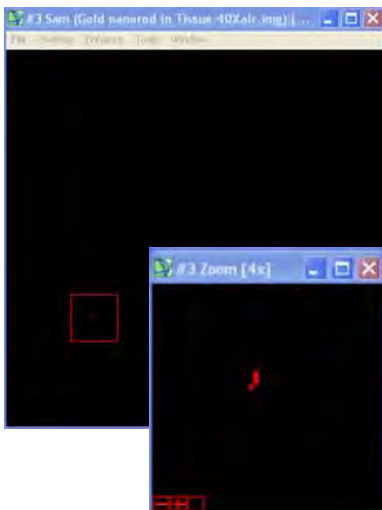

Figure 20. Original Classification (#1 SAM) image obtained using 0.1 Maximum Angle
11. Then click on "Load Band to New Display". The new classification (#2 SAM) images (Figure 22) with the original image (Figure 21) and the original classification (#1 SAM) Image at the side (Figure 20). When you compare the first and second classification images, you will see that additional particles scattered about the cell are classified as GNR when the angle was set to a greater value. The correct value for the angle must be found by experimenting with different values.